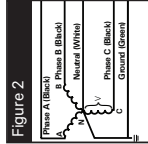

Figure 2
- 120Y = 208Y/120V Wye - 3Ø 4W+Grnd, (Fig 2)
- 277Y = 480Y/277V Wye - 3Ø 4W+Grnd, (Fig 2)
- 127Y = 220Y/127V Wye - 3Ø, 4W+Grnd (Fig 2)
- 230Y = 400Y/230V Wye - 3Ø 4W+Grnd (Fig 2)
- 240Y = 415Y/240V Wye - 3Ø 4W+Grnd (Fig 2)
- 254Y = 440Y/250V Wye - 3Ø 4W+Grnd (Fig 2)
- 230Y = 380Y/220V Wye - 3Ø, 4W+Grnd (Fig 2)
- 230Y = 400Y/230V Wye - 3Ø, 4W+Grnd (Fig 2)